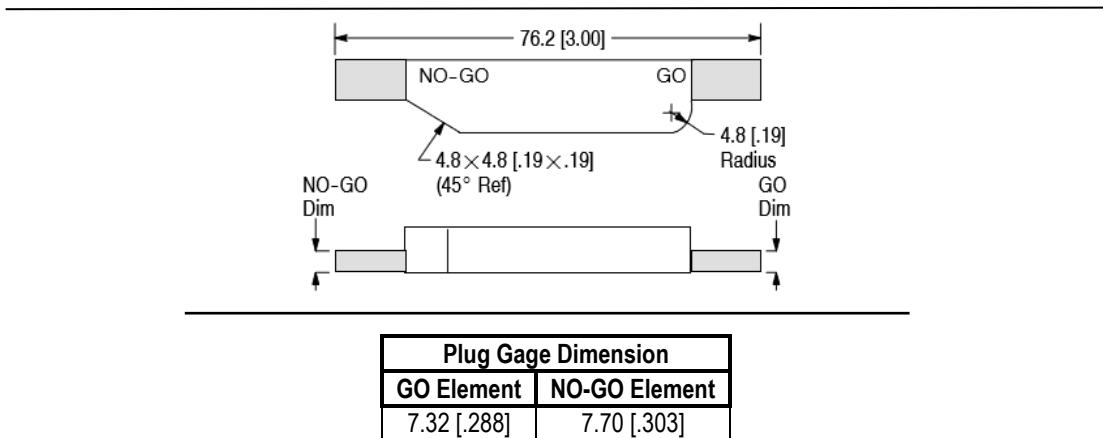
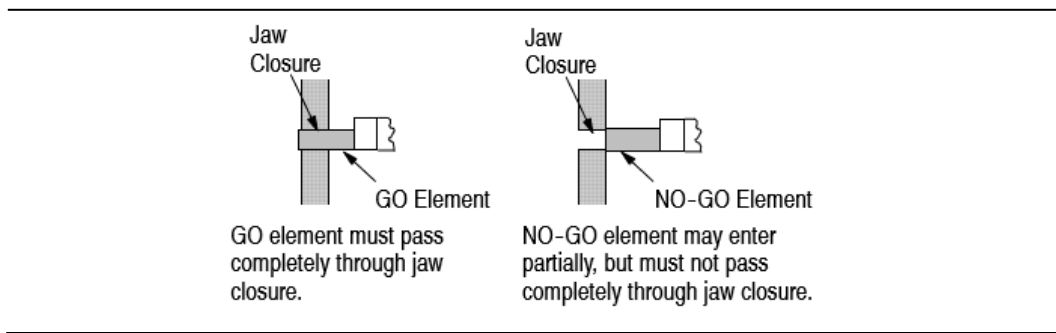

Figure 5
Figure 6
This inspection requires the use of a plug gage conforming to the dimensions in Figure 5.
3. Align the GO element with the tool jaws. Push the GO element straight into the jaw closure without using force. The GO element must pass completely through the jaw closure as shown in Figure 6.
4. Align the NO-GO element with the jaw closure and try to insert it into the jaw closure. The NO-GO element may start entry but must not pass completely through the jaw closure as shown in Figure 6.
- Split previous Figure 5 into Figures 5 and 6 and renumbered previous Figure 6. Adjusted figure locations for best application.